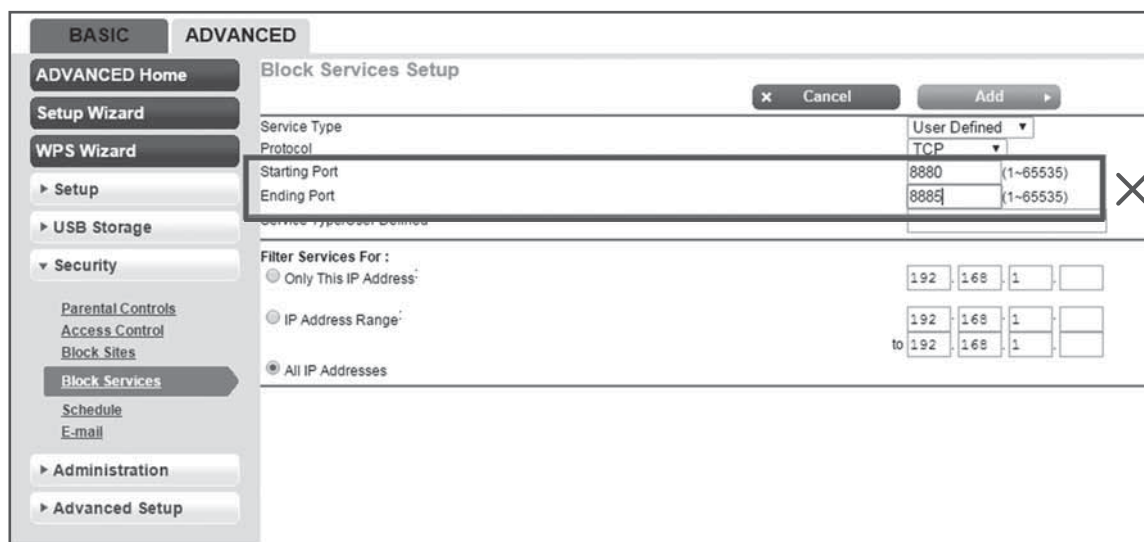

Fig. 3
7. Make sure Port 8883 TCP is open. If it's blocked (See Fig. 3), please modify the setting.